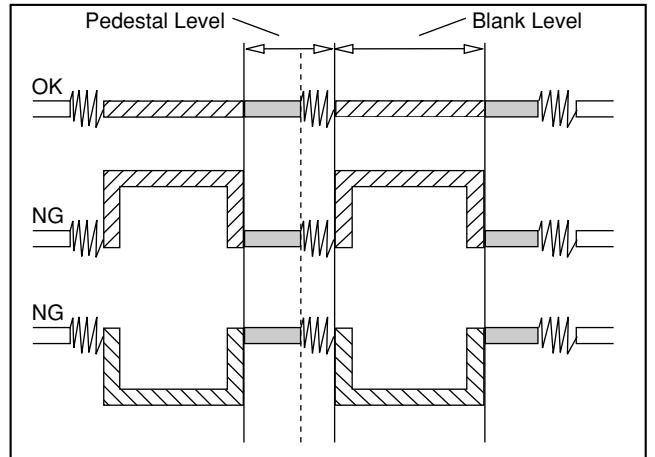

Fig. 3-2
2. Use the volume keys of the jig remote controller and adjust the pedestal & blank levels to be linear as shown in the Fig. 3-2.